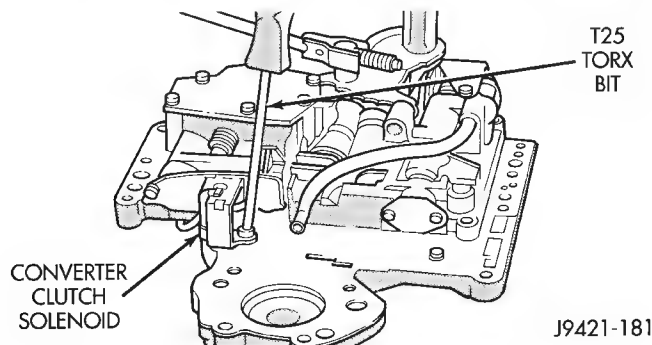

Fig. 120 Installing Converter Clutch Solenoid
- (1) Lubricate valve body bores, valves and plugs with Mopar ATF Plus transmission fluid.
- (2) Insert rear clutch and rear servo check balls in transfer plate (Fig. 120).
- (3) Install filter screen in separator plate (Fig. 120).
- (4) Align and install separator plate on transfer plate. Verify check ball position before installing separator plate on transfer plate.
- (5) Install new O-ring on converter clutch solenoid and insert solenoid in separator plate (Fig. 120). Then secure solenoid in position with attaching screw. Tighten screw to 4 N·m (35 in. lbs.) torque.